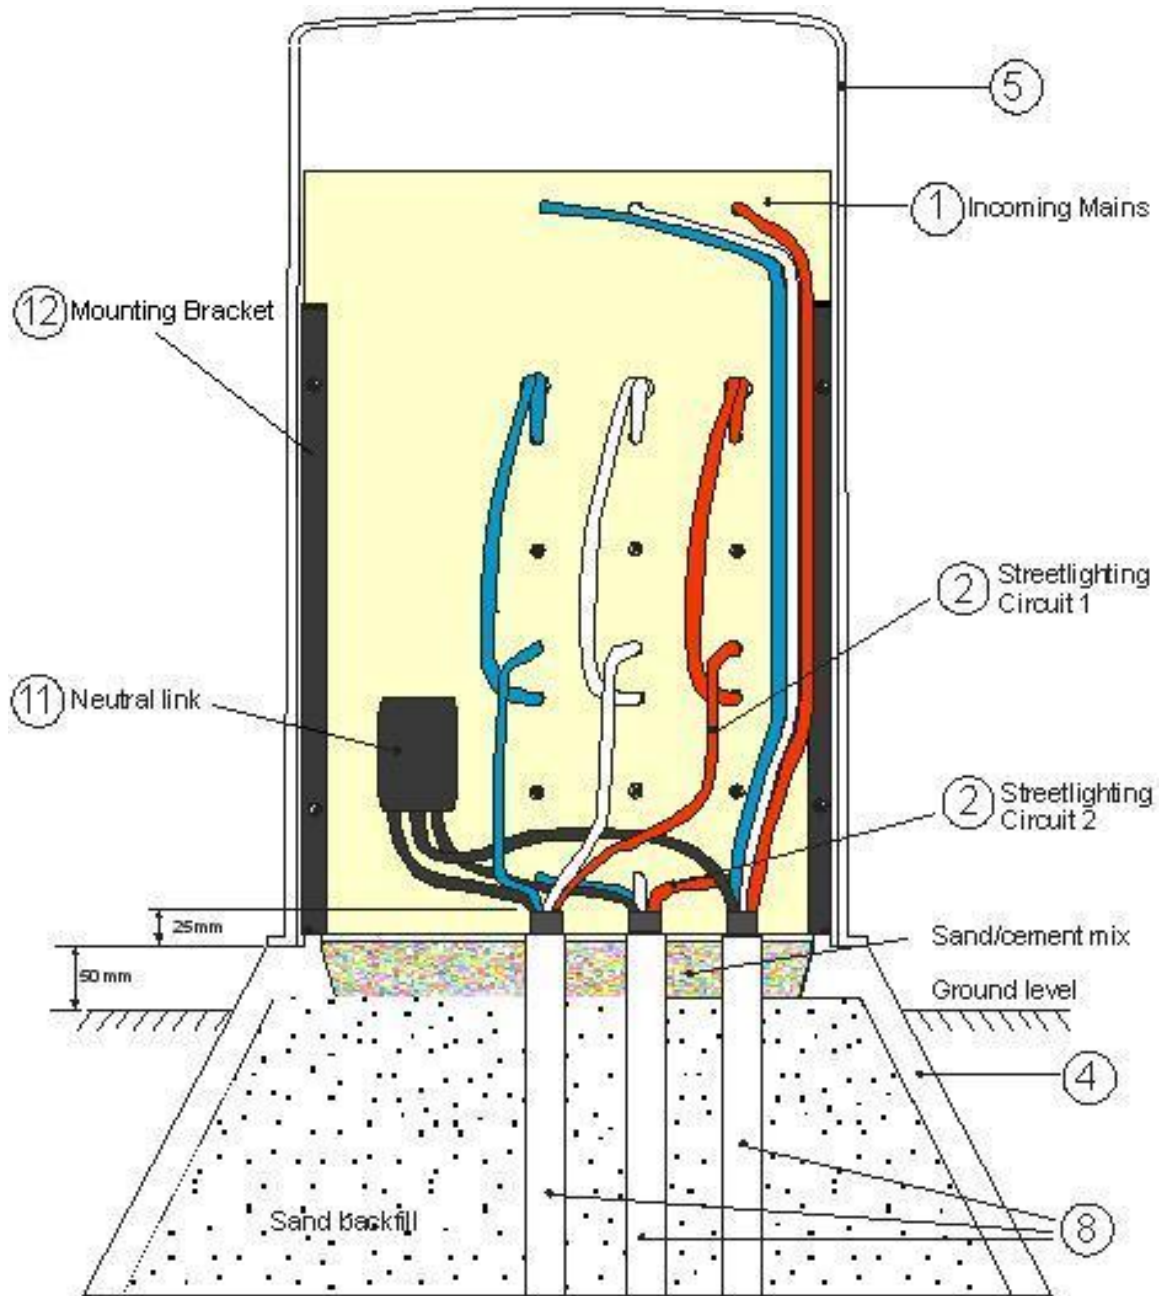

Figure 23 - General Arrangement (rear view)
- 10) Refer to Figure 23 for service conduit stub details (if applicable).
- 12) A conduit stub shall be installed in accordance with Figure 23 for each cable that has not been initially laid prior to the installation of the pillar noting the following:
- 13) As the distributor cables hold the link panel in place, all three (3) distributor cables shall be installed during the construction of this pillar.